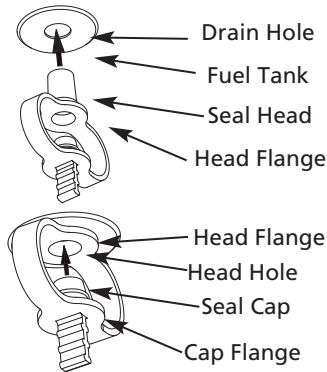

Figure 10 – Drain Plug Reinstall
- Insert plug's seal head fully into drain hole so that flange is flush to tank's bottom. See Figure 10.
- Insert seal cap fully into head hole so that cap flange is flush to head flange. See Figure 10.